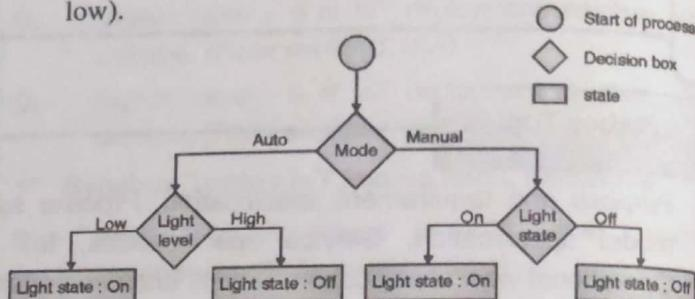

Fig. 2.2.2 : Home automation IoT system process specification
- This is the second step in IoT design methodology where we define process specifications. Process model specification for home automation system is shown in Fig. 2.2.2. In Fig. 2.2.2, we can see two modes of system auto mode and manual mode. If mode is auto mode, the system keeps track of light level. System changes state of light to on if light level is low (or very low).